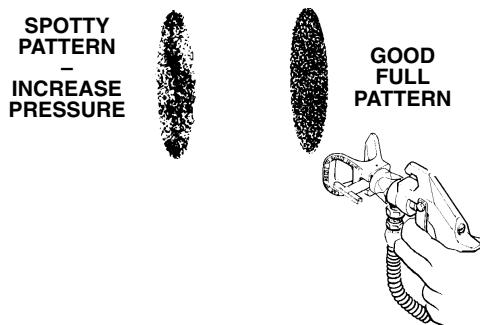

Fig 11-1
3. Adjusting the spray pattern (See Fig 11-1.)